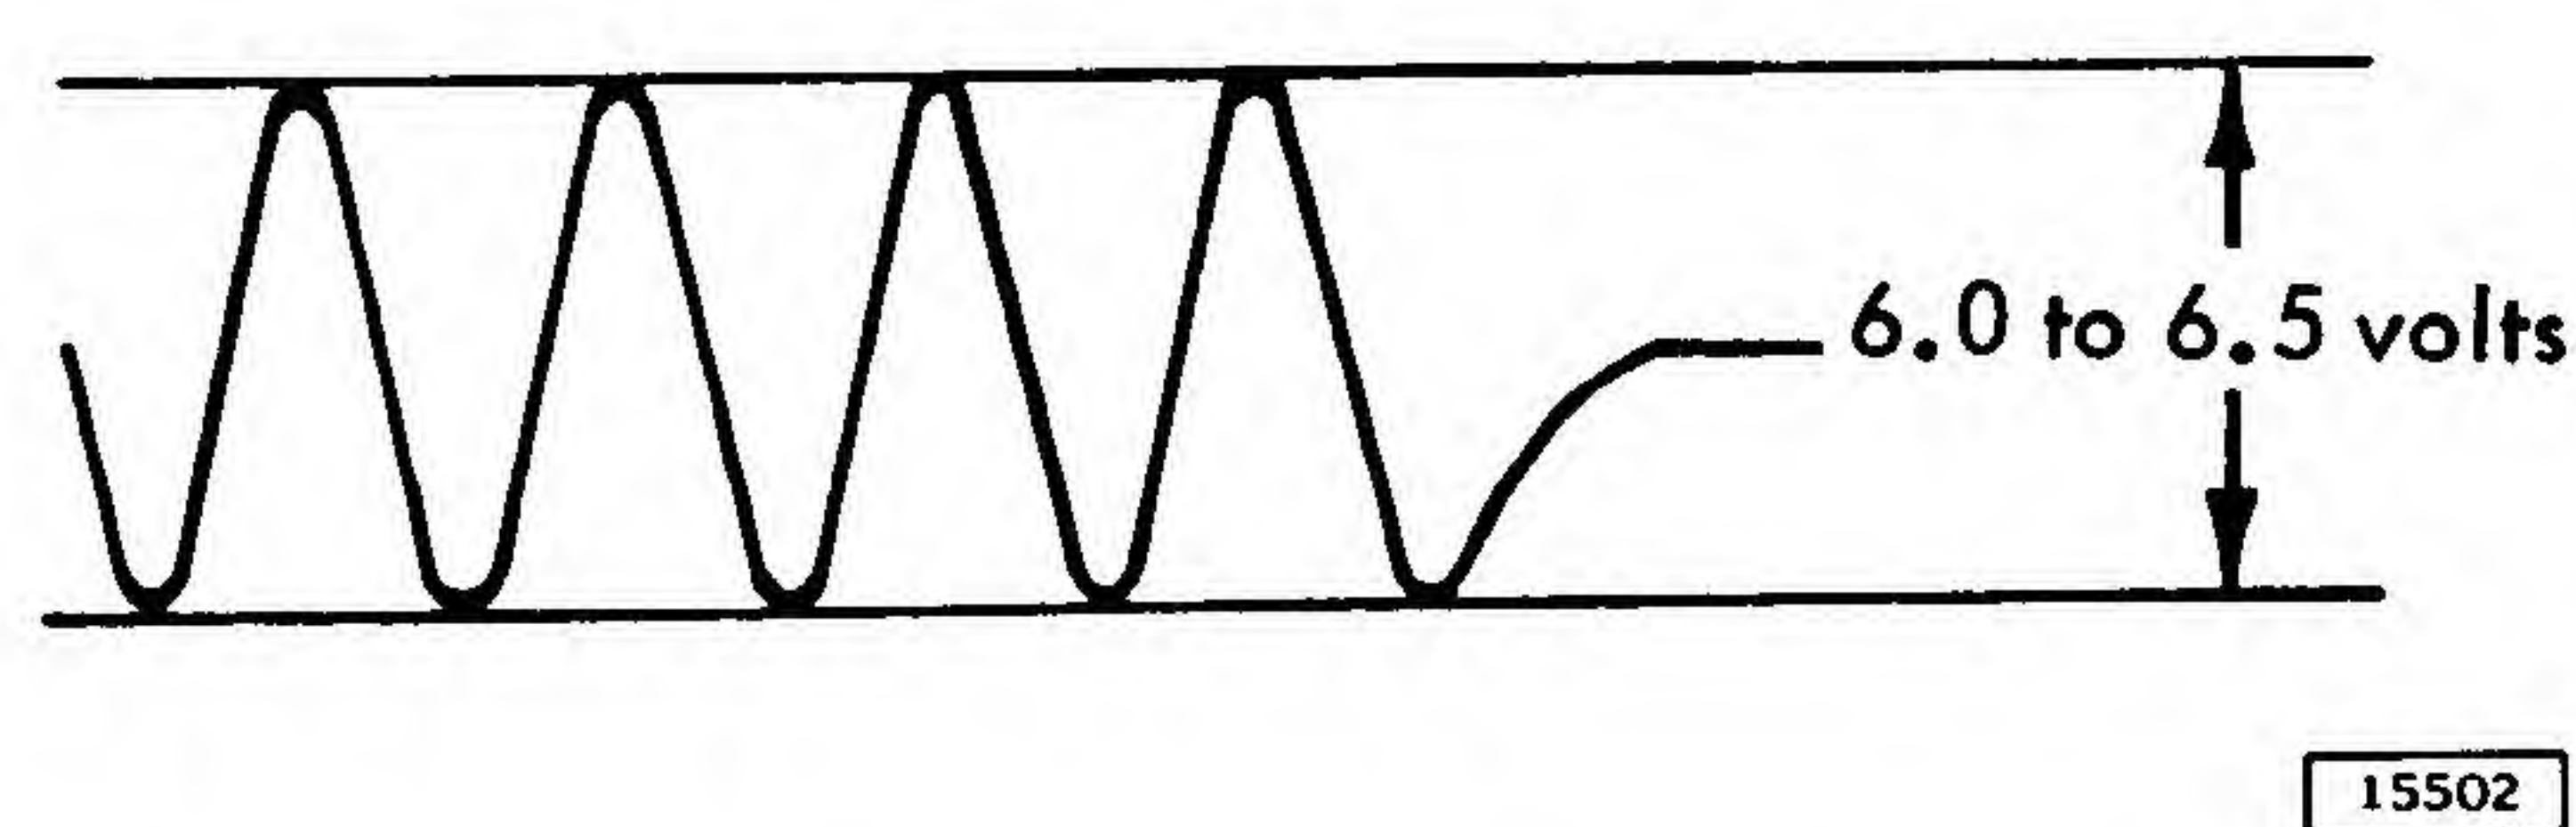

Figure 2-49. Voltage Output of Second Linear Amplifier
3. Adjust the voltage on pins A and F of the second linear amplifier (TEH-) at 01A5B12 to 6 to 6.50 volts peak-to-peak (measured differentially) by means of the potentiometer on 01A5B09. If this voltage cannot be obtained, the variable gain amplifier (TEV-), the AGC detector (TEQ-), and the two subsequent linear amplifiers (TEH-) should be checked (Figure 2-49).